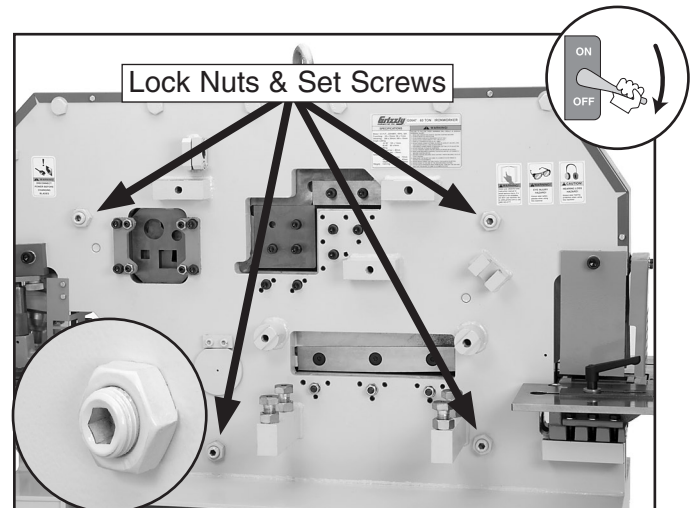

Figure 58. Beam adjustment lock nuts and set screws.
3. Identify the four beam adjustment lock nuts and set screws on the front of the machine, as shown in **Figure 58**.
4. Back off the lock nut, then loosen the set screw (see the inset of **Figure 58**).